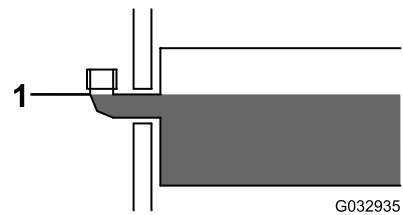

Figure 25
- Remove the fill cap from the hydraulic reservoir (Figure 25).
- Slowly fill the reservoir with BOSS high-performance hydraulic fluid to the bottom of the fill elbow (Figure 25).